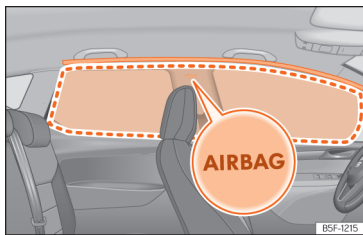

Fig. 37 Location and deployment area of the head-protection airbag.
Head-protection airbags are on both sides of the passenger compartment, above the doors »» **Fig. 37** and their location is indicated with the word "AIRBAG".
The framed area is covered by the head-protection airbag when it is deployed (deployment area) »» **Fig. 37**. Therefore, objects should never be placed or mounted in this area »» **△**.
- Ensure that children are correctly seated in their seats and that their heads are not in the deployment zone of the head airbags »» **Fig. 37**, as deploying airbags could hit them and cause serious injury.